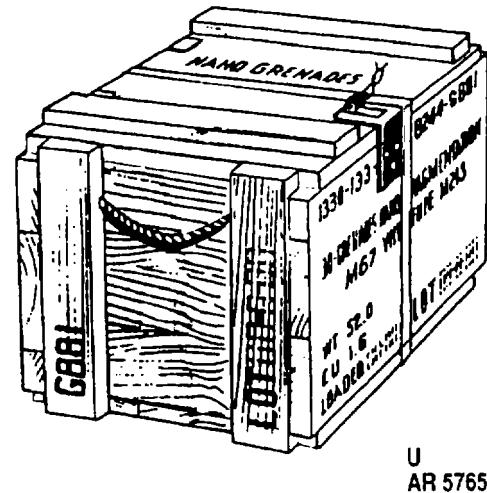

Figure 3-11. Typical outer packing and markings.
- (4) Assure box is marked with proper item nomenclature and lot number, as in figure 3-11.
- (5) Close box, secure hasp, and band box.
Data normally appearing on grenade outer pack are illustrated in figure 3-11.